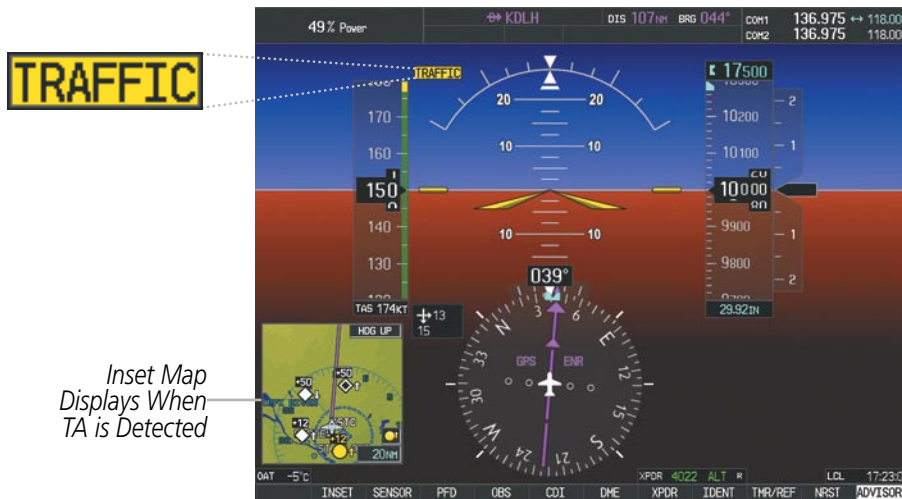

Figure 6-88 Traffic Annunciation (PFD)
- A TRAFFIC Annunciation appears at the top right of the airspeed on the PFD, flashing for five seconds and remains displayed until no TAs are detected in the area (Figure 6-88).